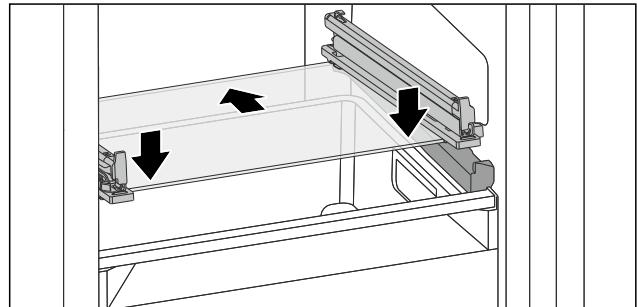

Fig. 74 Tilting drawer glass shelf
- Position glass shelf at an angle behind the stoppers. (see Fig. 74)